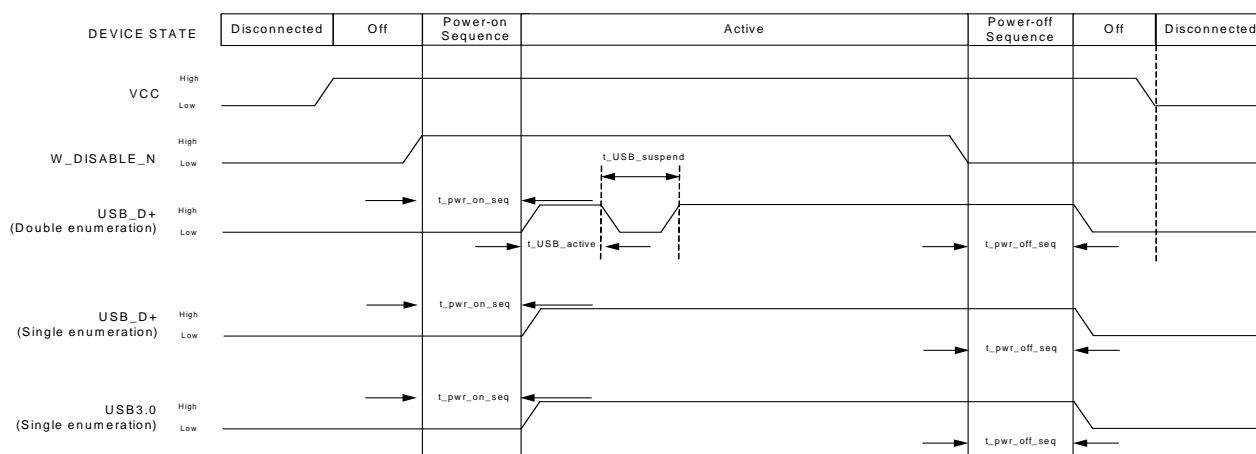

Figure 5-2: Signal Timing (W_DISABLE_N, and USB Enumeration)
Figure 5-2 describes the timing sequence for powering the module on and off.
- Double enumeration—As shown in Figure 5-2 on page 51: